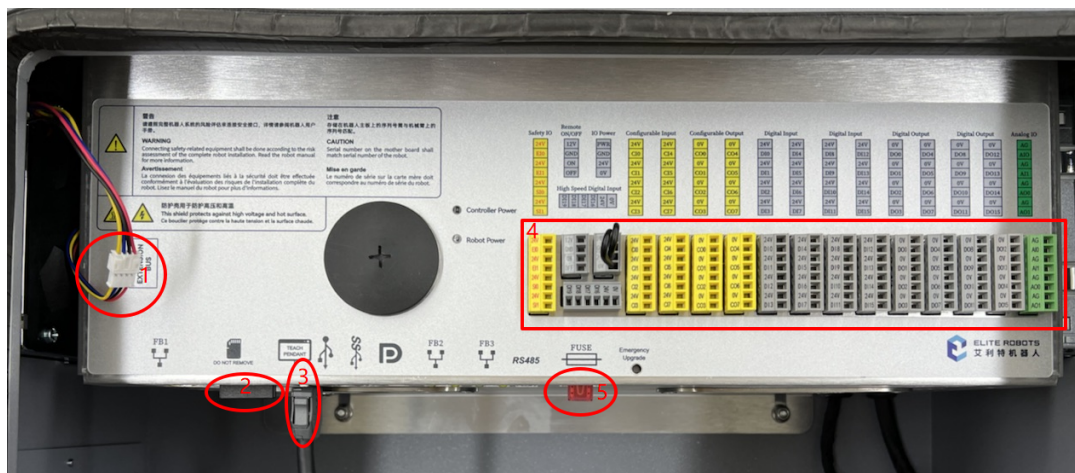

Figure 3-23 : Items for removing or disconnecting
2. Remove or disconnect the following parts, as shown in **Figure 3-23** :